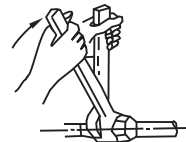

Fig. 7-3
- Put the connecting tubing at the proper position, wrench the nuts with hands then fasten it with a wrench. (Refer to Fig. 7-3)